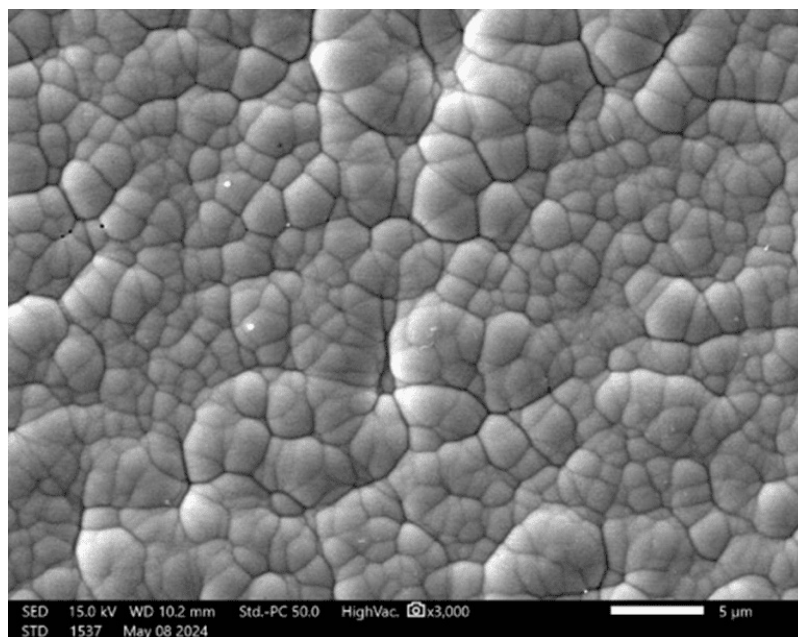
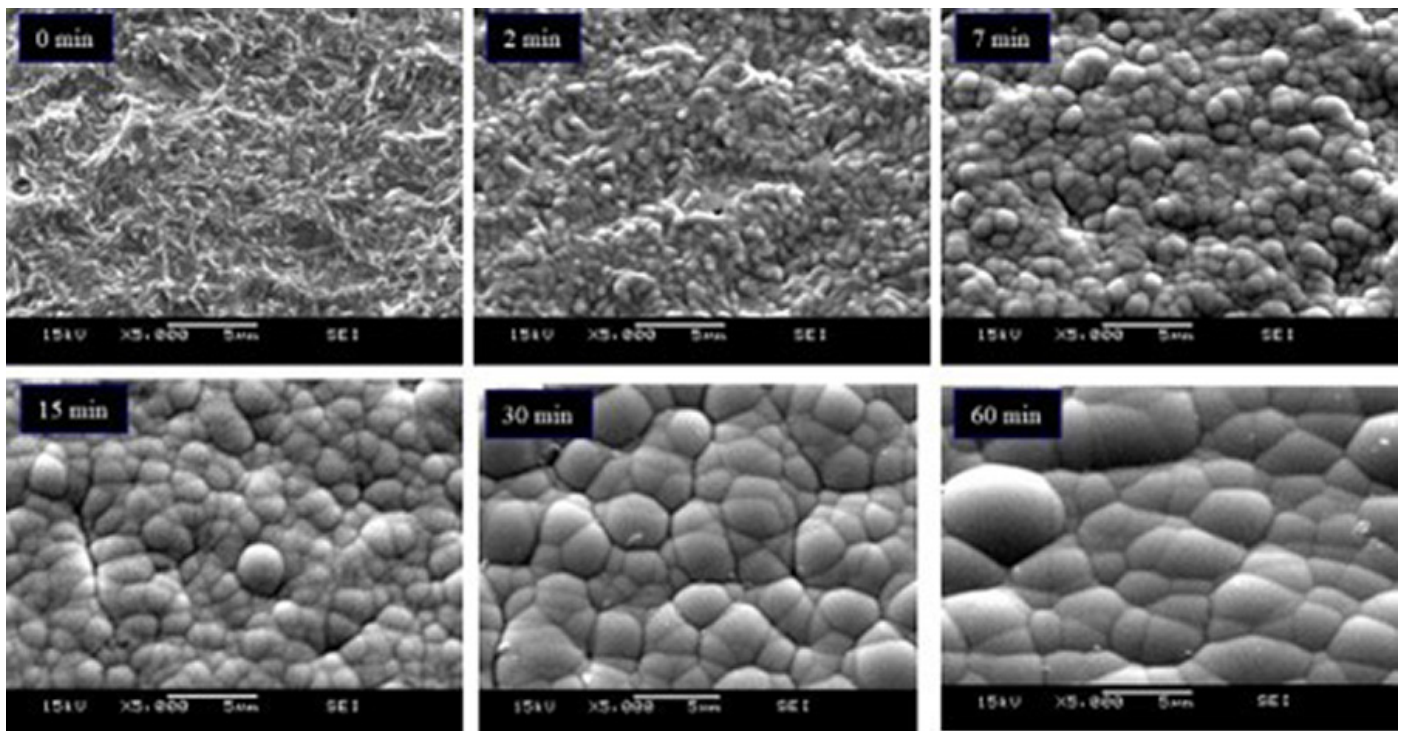

Figure 1. Hemispherical Ni-P nodules.
Figure 2. Nickel nodule hemisphere growth versus plating time.
The most common electroless nickel baths for printed circuit boards (PCBs) use a phosphorous-containing reducing agent, typically incorporating $\leq 10\%$ phosphorous, by weight, in the nickel deposit. The nickel phosphorous (Ni-P) deposit is amorphous and has an isotropic surface energy. This produces a Ni-P deposit with hemispherical nodules that look like soap bubbles (**Figure 1**).
Nickel nodule growth conditions vary from nodule to nodule, so we see nodules of various sizes, as seen in Figure 1. As plating thickness increases, the nickel nodule hemispheres contact each other, forming cusps. Any two given nickel nodule nuclei are separated from each other by a distance of (D) units. Each nickel nodule has a given radius (r) for its size (Figure 2).